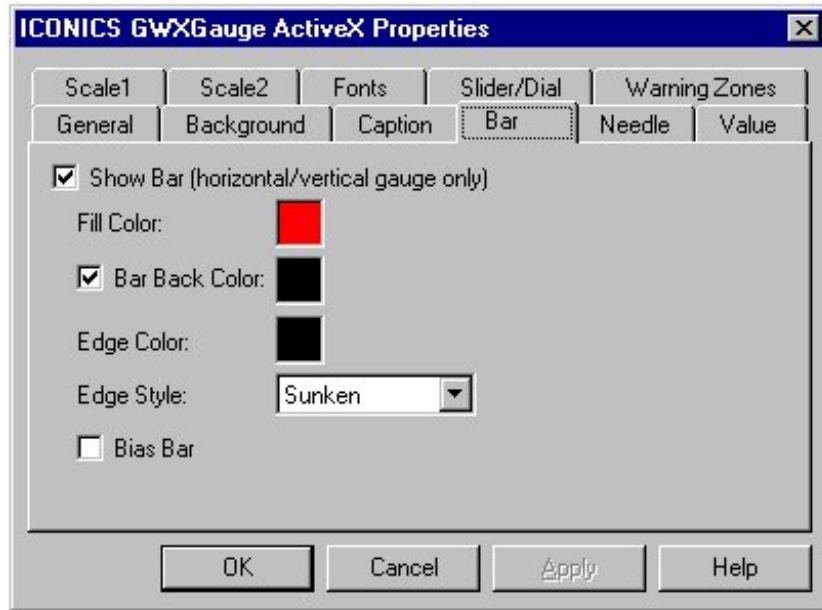

Figure 15-7:GWXGauge ActiveX Properties Dialog Box: Bar Tab
2. Select the Bar tab (Figure 15-7).